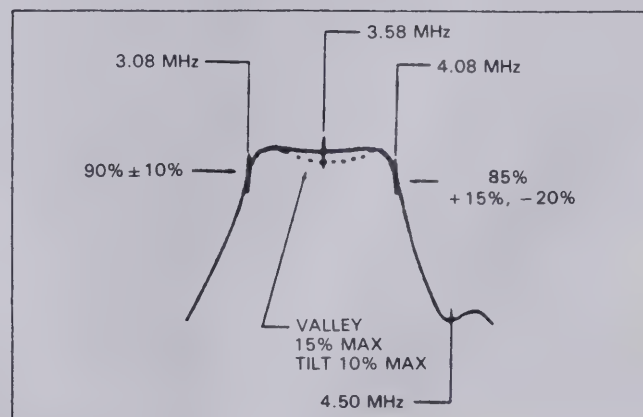

Fig. 21. Frequency Response Measurement.
Frequency Response Measurements (refer to Fig. 21)
1. Connect the audio or rf output of the sweep generator to the input of the circuit under test and the output of the test circuit to channel 1 (vertical axis) of the oscilloscope. A demodulator probe will give a "text book" frequency response display as shown in Fig. 21, but a standard probe can be used which will result in an envelope display.